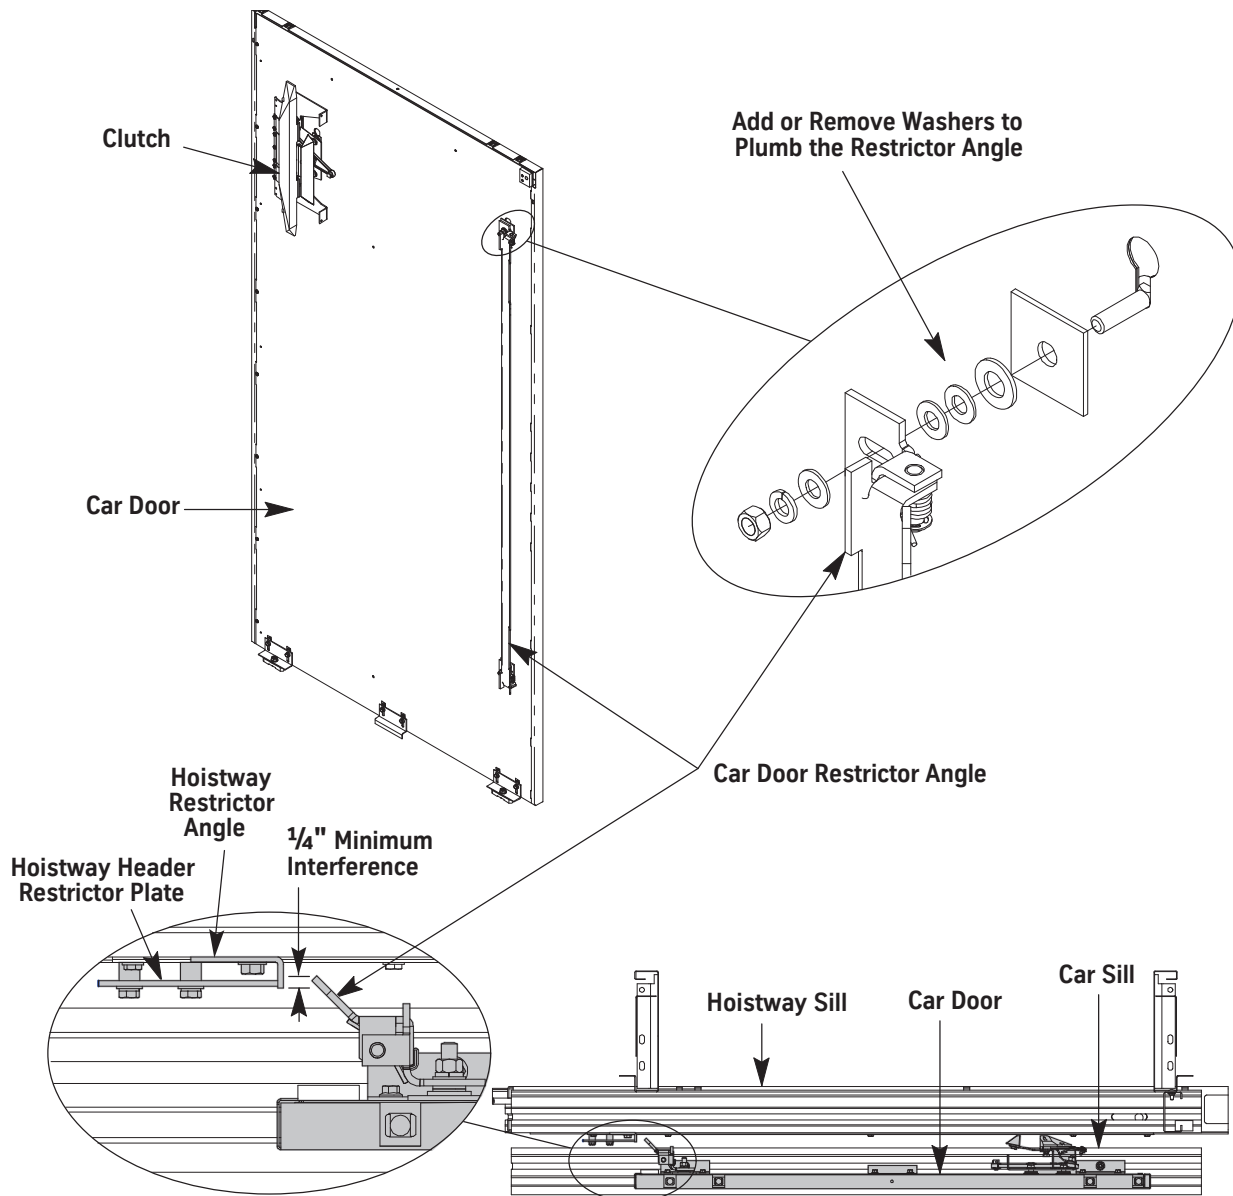

Figure 26 - Install the Car Door Restrictor Angle
2. Use washers to adjust the car door restrictor so that it is plumb and a 1/4" minimum interference when the car door restrictor engages the hoistway restrictor angle. See Figure 26.